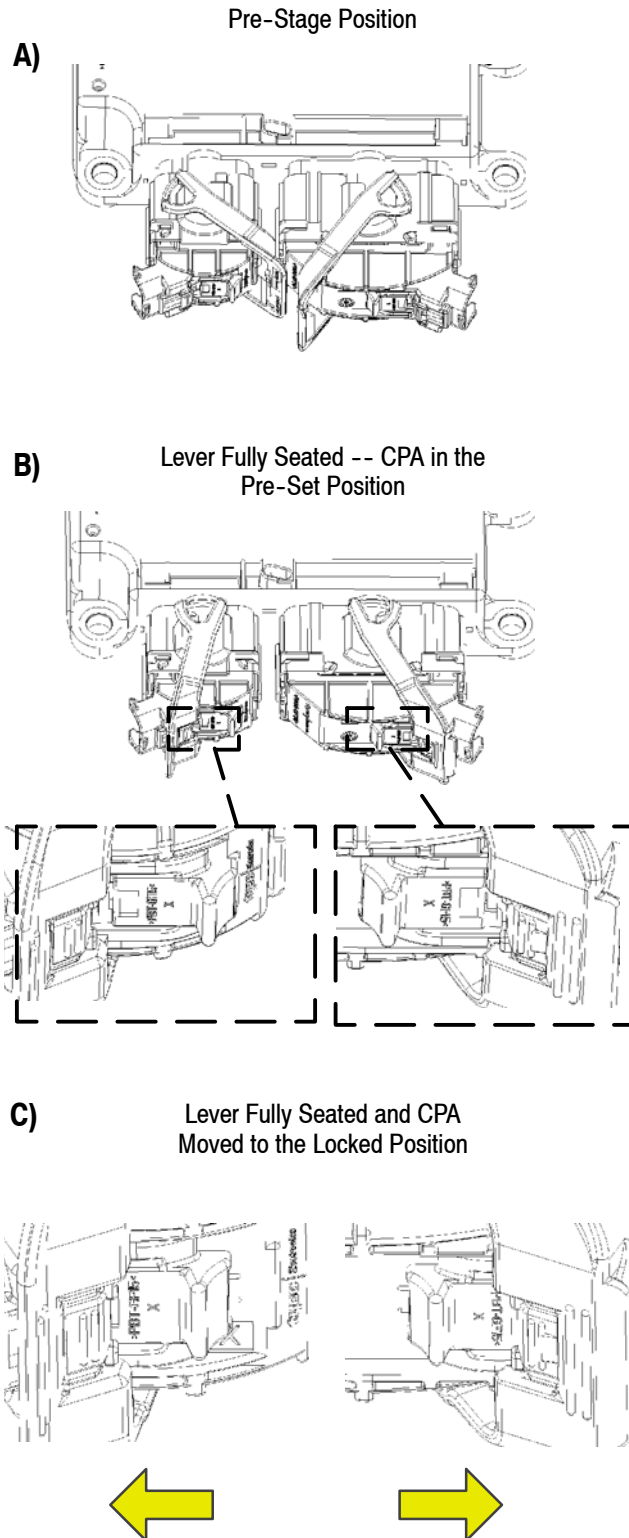

Figure 6
1. Push the plug assemblies onto the header shroud until an audible “click” is heard. This is the pre-staged position, which flexes the pivot end of the lever outwards so that it can be released from the open position. Refer to Image A in Figure 6.
3. Once the lever is rotated to the end of the travel, an audible “click” will be heard as the lever latches into position on the wire dress cover. See Image B in Figure 6.
4. Latching the lever onto the wire dress cover will engage the CPA and allow the device to be pressed forward into its locked and seated position. See Image C in Figure 6.